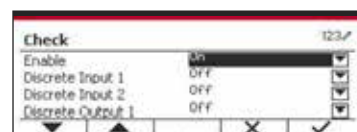

Figure 63
4. Select the list item and press the softkey corresponding to the ✓ icon to change setting. (See Figure 63)